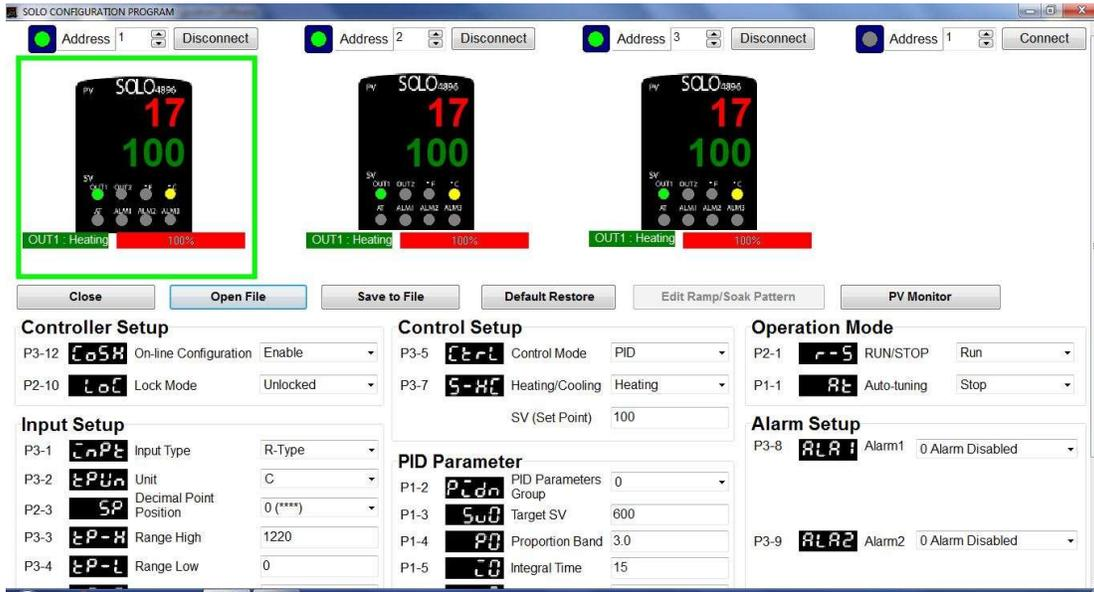

Figure 6. SOLO configuration screen
- e. Starting from left to right, set the address to 1, 2 and 3, and click "connect" on each one. (Figure 6).
- a. Zone # (in Figure 3) = address # (in Figure 6)